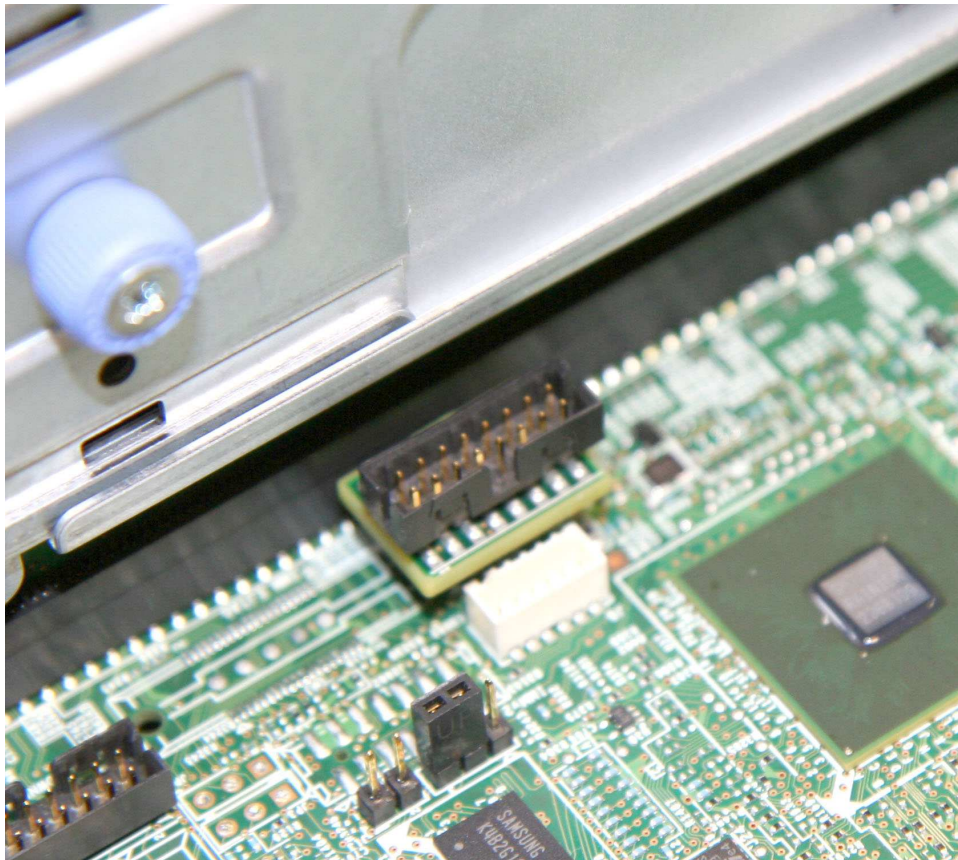

Figure 105. The LPC adapter that is fitted to the LPC connector on the system board, two views
3. Remove the LPC adapter board from the LPC connector on the system board, as shown in Figure 105 on page 127.